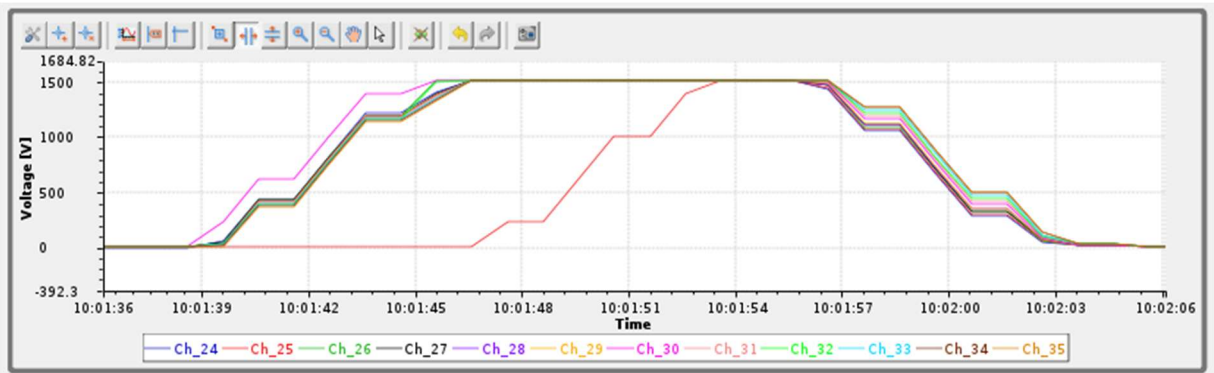
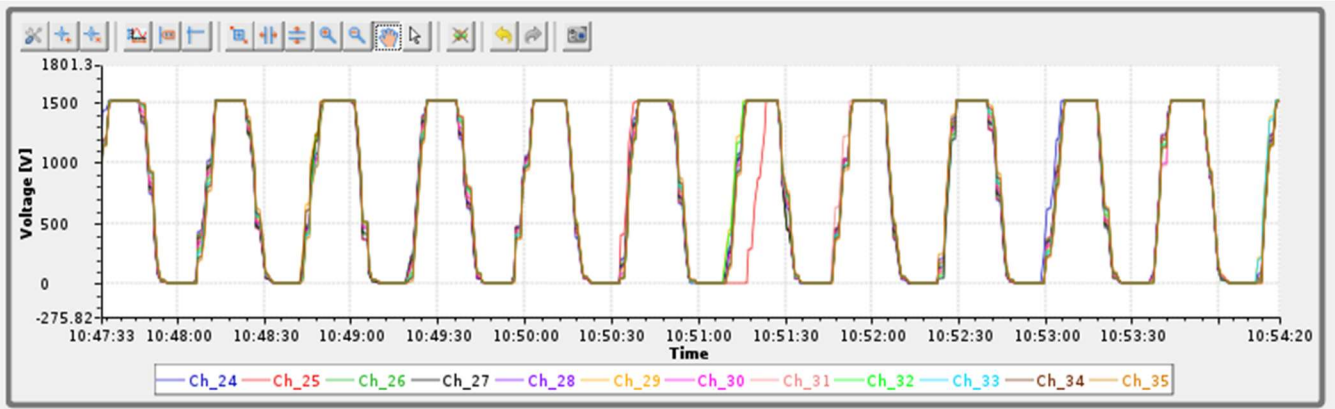

Fig.19 – HV CAEN – Voltage Ramp Test CSS BOY screen zoom in view shows first latency incident for ch_25.
Fig.21 – HV CAEN – Voltage Ramp Test CSS BOY screen shows second latency incident for channel 25. Channel 25 ramped up after ~ 10 s of P_w value was set to 1
2. Channel 25 had same misbehavior as mentioned in previous test; channel 25 presented three latency incidents during this trial. See fig.19 to fig 21.